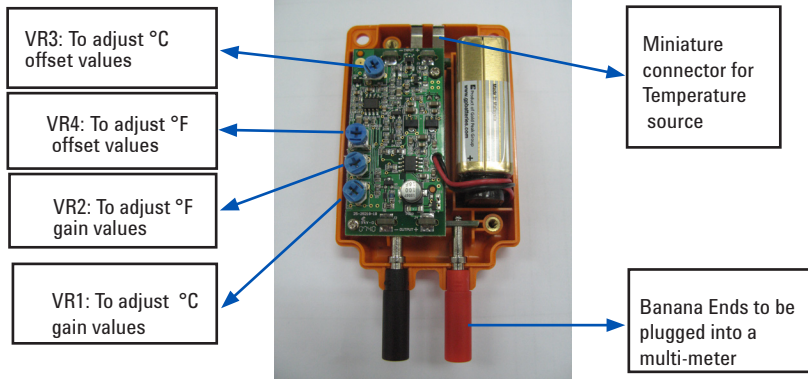

Figure 1: U1586B Adjustment Diagram
9. Look for VR3 (refer to Figure 1 for the location of VR3 in the adjustment diagram) and carefully adjust the variable resistor using a small Phillips tip screwdriver until the display of the multimeter meets the required reading of 0.0 mV \pm 0.2 mV.
9. Look for VR1 (refer to Figure 1 for the location of VR1 in the adjustment diagram) and carefully adjust the variable resistor using a small Phillips tip screwdriver until the display of the multimeter meets the required reading of 300.0 mV \pm 0.2 mV.
9. Look for VR4 (refer to Figure 1 for the location of VR4 in the adjustment diagram) and carefully adjust the variable resistor using a small Phillips tip screwdriver until the display of the multimeter meets the required reading of 32.0 mV \pm 0.2 mV.
9. Look for VR2 (refer to Figure 1 for the location of VR2 in the circuit diagram) and carefully adjust the variable resistor using a small Phillips tip screwdriver until the display of the multimeter meets the required reading of 572.0 mV ± 0.2 mV.